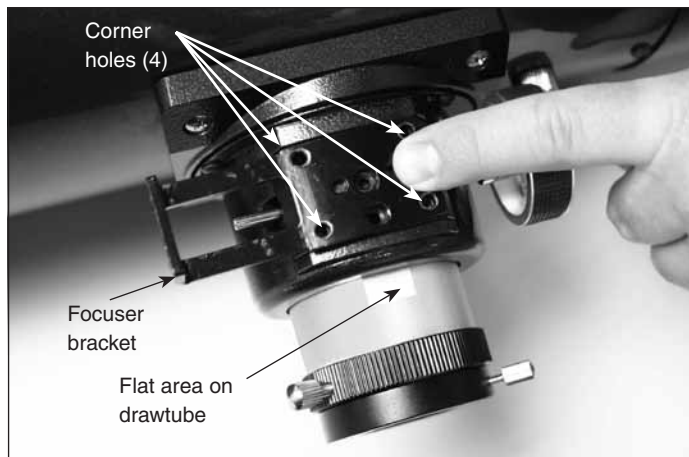

Figure 4. The bracket goes over the cover plate so the four corner holes line up with each other.
5. Place the focuser bracket on top of the focusing shaft cover plate. The holes in the bracket should line up with the holes in the cover plate (Figure 4).
7. If the focuser drawtube has rotated, rotate it back into position now. The flat area on the drawtube should make a good connection with the focusing shaft (see Figure 4).